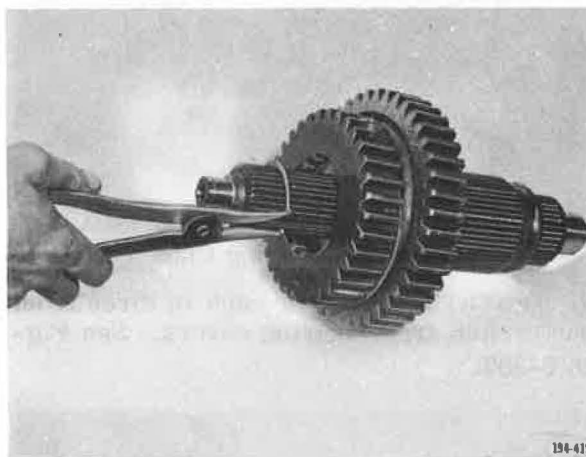

Figure 5-514. Installing Snap Ring
17. Install fourth speed gear retaining snap ring, using snap ring pliers J-29045 or equivalent. See Figure 5-514.